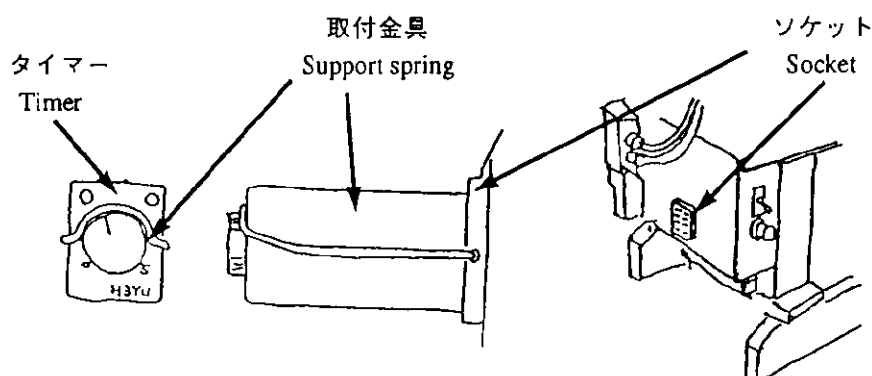

Fig.12
本キットはFig.12に示されるタイマーと取付金具のキットです。
Timer kit consists of a timer (see Fig.12) and a support spring.
- ・ Set the support spring as Fig.12.